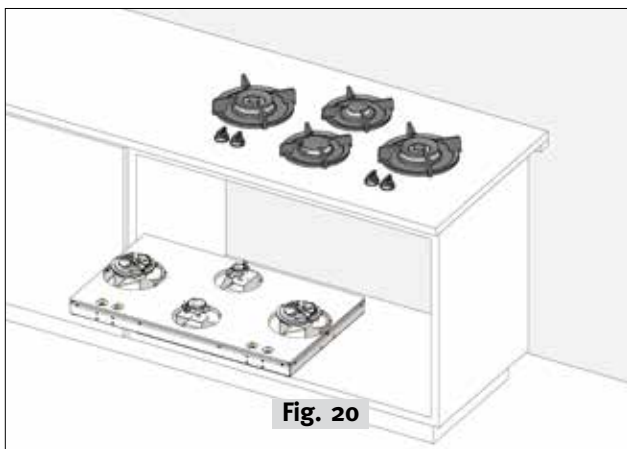

Fig. 20
- 4b. In case of service, the PITT® cooking module should **ALWAYS** be able to be disassembled without disassembling the cabinets and/or kitchen worktop (**fig. 20**).